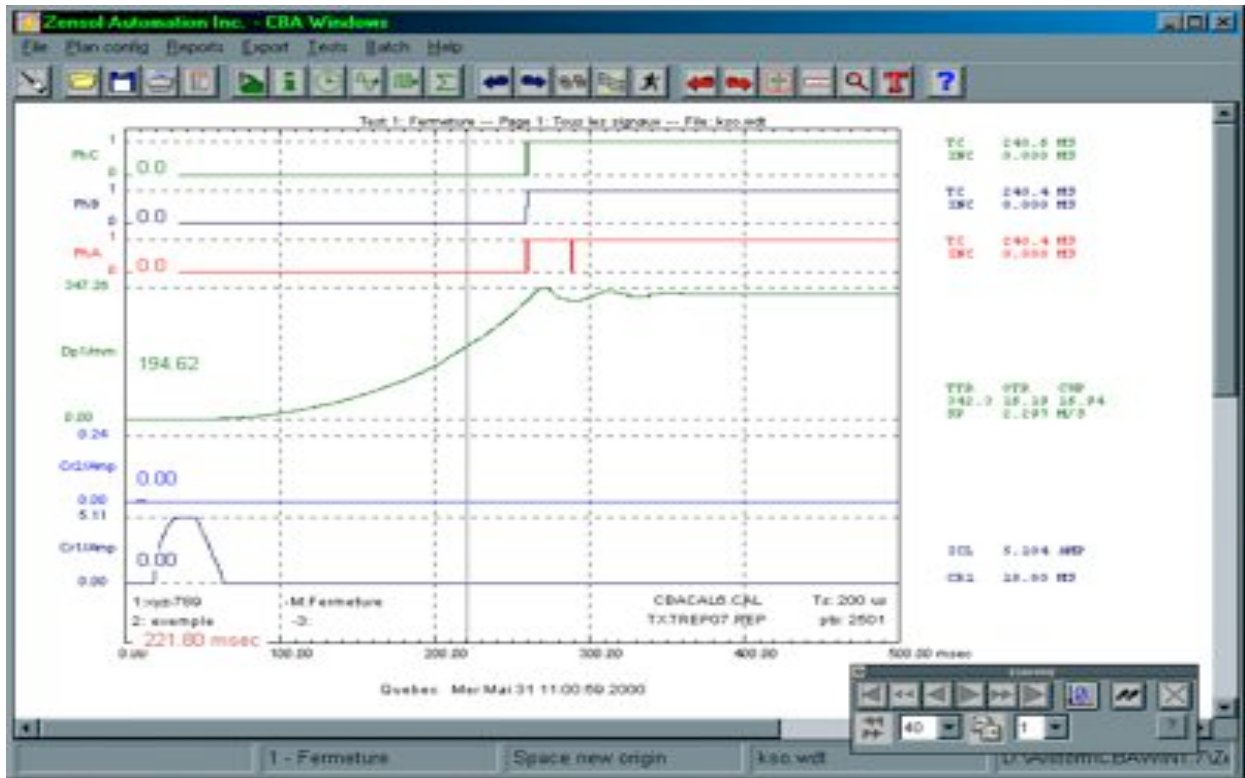

Fig 2.4b CBA Win graphic page as seen on a computer screen
Between (1) and (3) is a 10 volt signal generated during the test. The signal returned from the displacement transducer is collected between wires (2) and (3) and transmitted to the CBA Win analysis software, which traces the displacement curve over time on the computer screen. In (Fig. 2.4b) is an example of a graphic page displayed by CBA Win as seen on a computer screen.